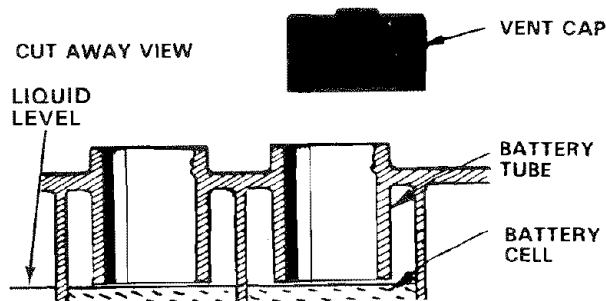

FIGURE 1
- Fill battery with electrolyte to bottoms of tubes in cells (Fig. 1). NOTE: DO NOT OVERFILL. OVERFILLING WILL RESULT IN DAMAGE TO TRACTOR.